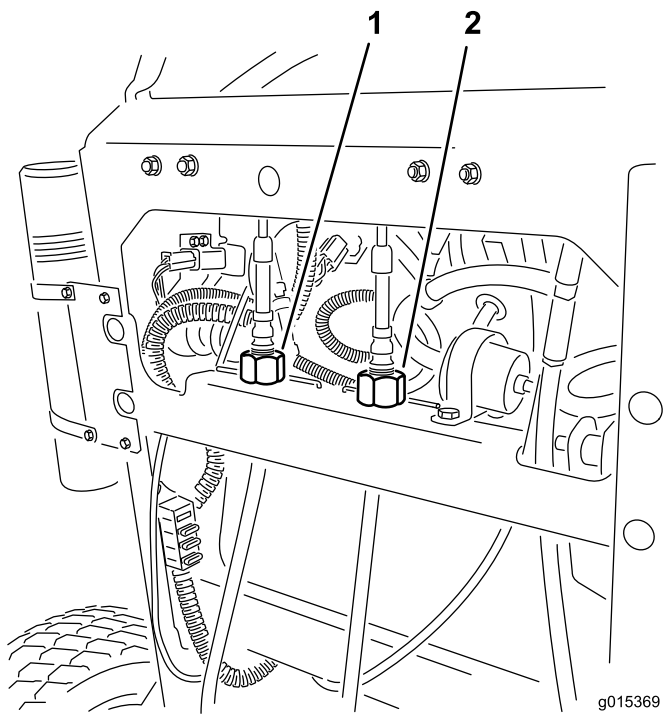

Figure 28
6. Rotate the left cable adjustment to match the left wheel speed to the previously set right wheel speed. Adjust in quarter-turn increments until the machine tracks straight (Figure 28).